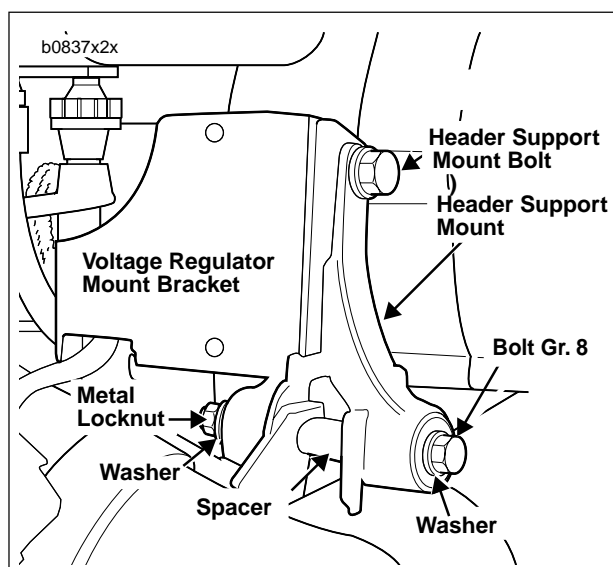

Figure 2-89. Header Support Mount
3. See Figure 2-89. Remove bolts and locknuts with washers from header support mount.
3. See Figure 2-89. If removed, attach header support mount to crankcase.
7. See Figure 2-89. Secure muffler to header support mount with bolt, locknut and washers. Tighten to 22-24 ft-lbs (30-33 Nm).